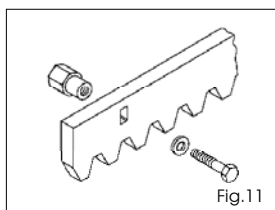

Fig.11
5.4.1. Steel rack to weld (Fig. 11)